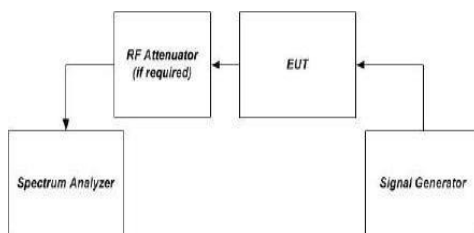

Figure 1 – Band verification test instrumentation setup
- Connect the EUT to the test equipment as shown in Figure 1. Begin with the uplink output (donor) port connected to the spectrum analyzer.
- a) Connect the EUT to the test equipment as shown in Figure 1. Begin with the uplink output (donor) port connected to the spectrum analyzer.